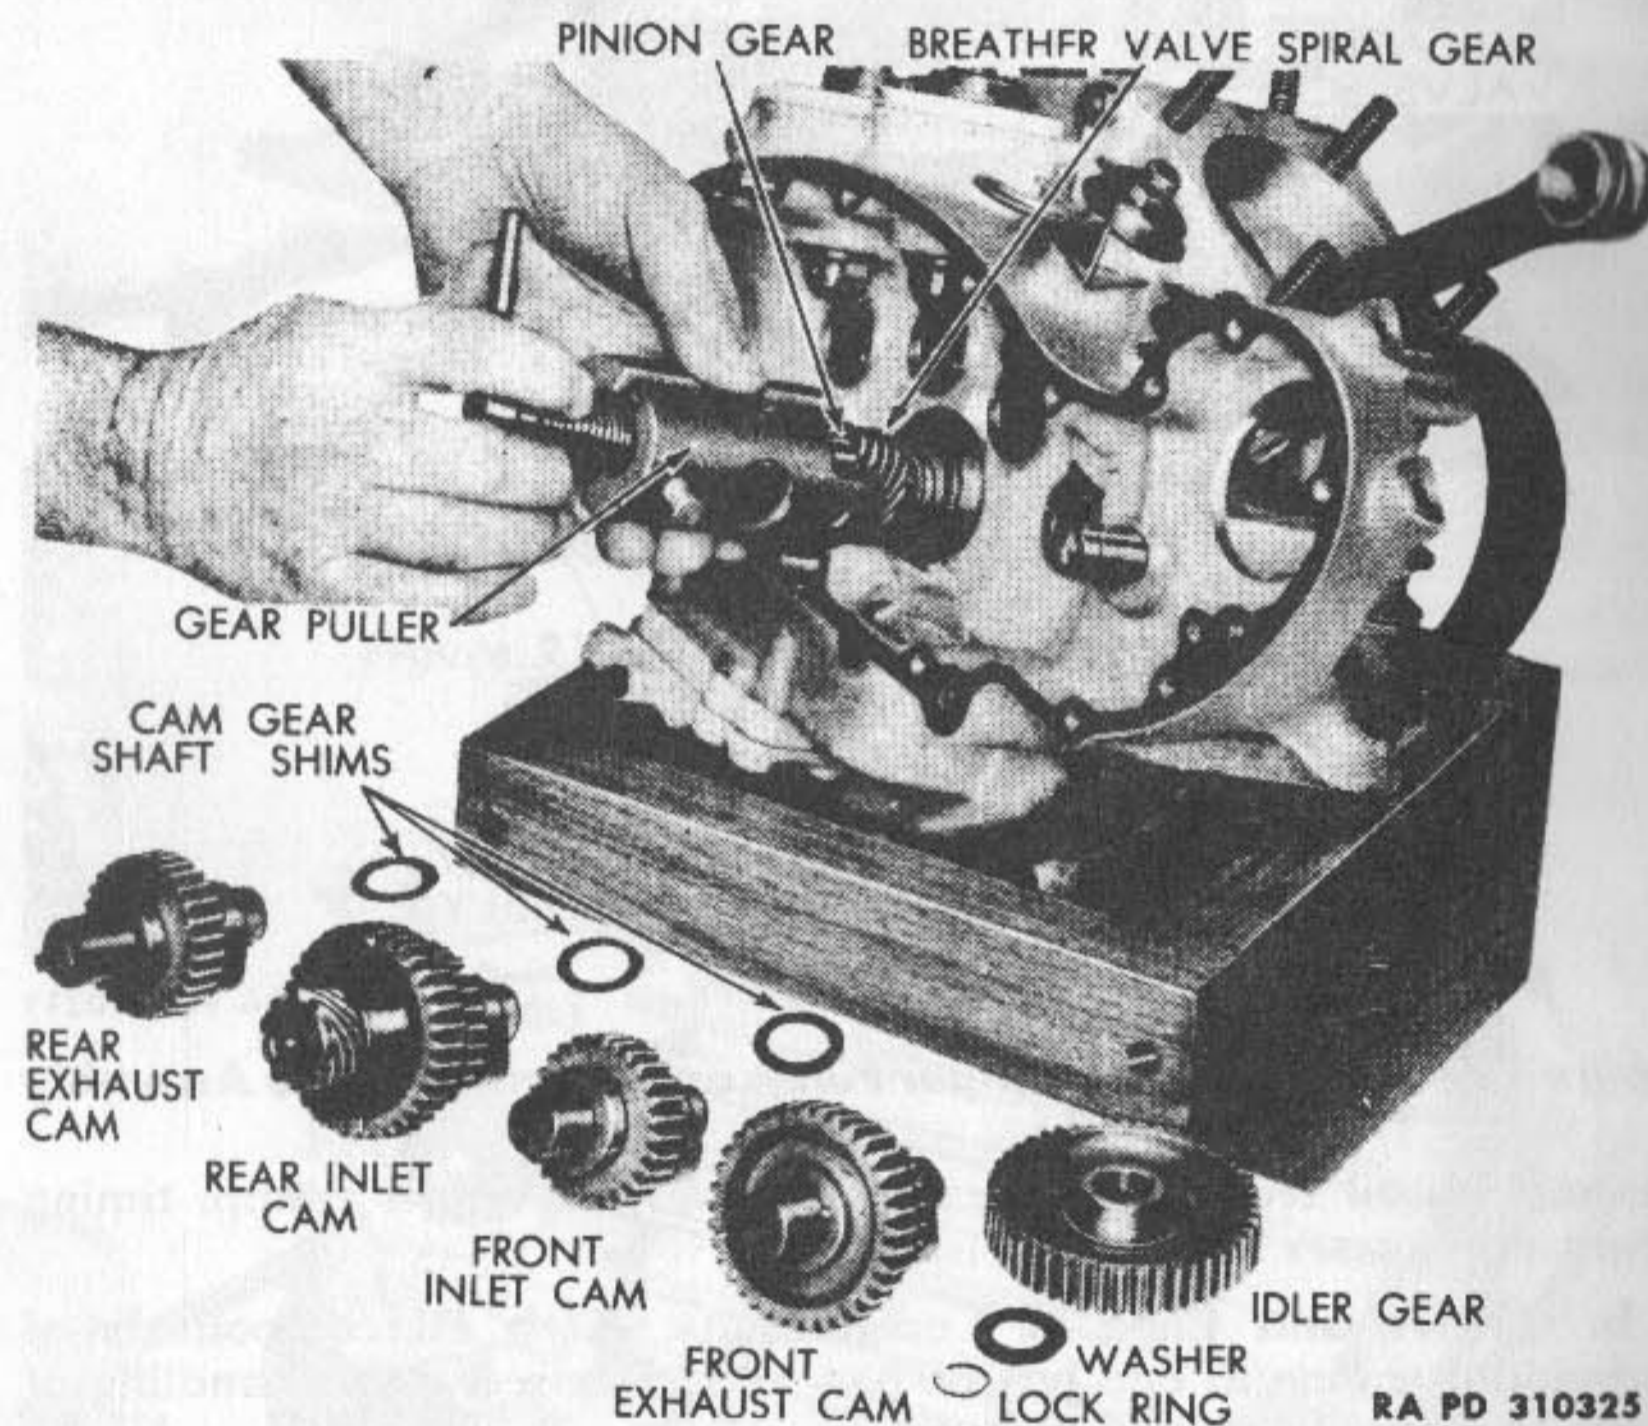

Figure 30—Removing Timing Gears with Puller (41-P-2903)
(7) REMOVE TIMING GEARS (fig. 30). Remove front and rear cylinder cam gears by pulling them out of crankcase bushings. Large intermediate gear is retained on stud by means of spring lock ring. When removing timing gears take care not to lose any shims that may